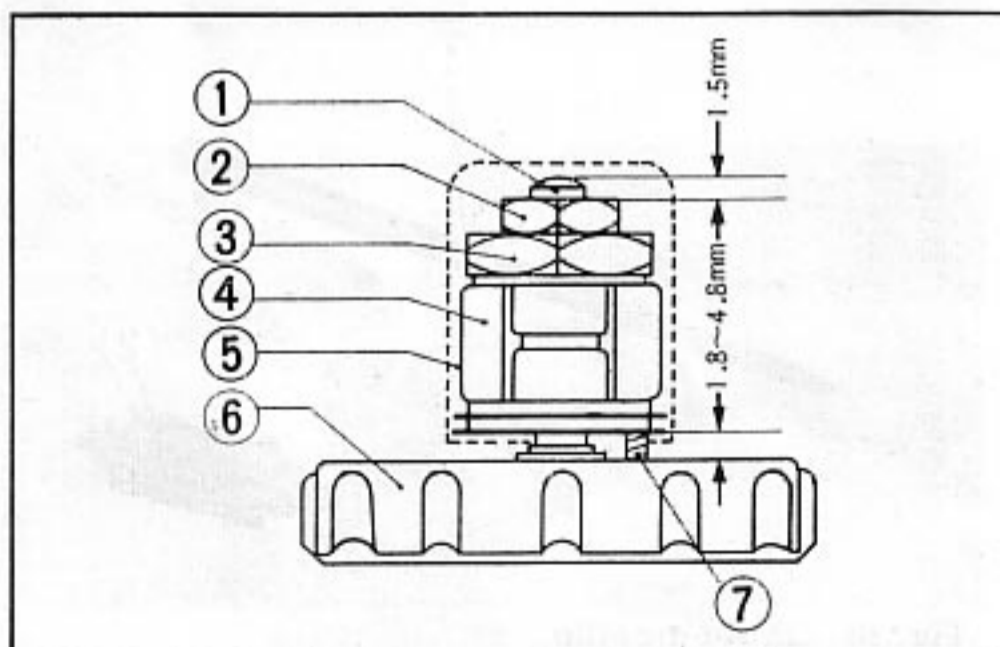

Fig. 20 Link component
① Rod	⑤ Rubber boot
② Lock nut	⑥ Top
③ Adjuster screw	⑦ Gauge
④ Link arm
4. Start the engine, loosen the adjuster screw lock nut and turn the adjuster screws so that the vacuum gauges connected to the carburetors are all indicating uniformly (within 3.0cmHg) between 16 to 24 cmHg. (Fig. 20)
- ① Turn the throttle stop screw until there is a slight clearance between the stopper and the screw.
- ② Adjust the adjuster screw so that there is a **0.070-0.189 in. (1.8-4.8 mm)** clearance between the adjuster screw and the top. (Fig.20)
- ③ Turn the throttle stop screw in the counter clockwise direction back to the original position.